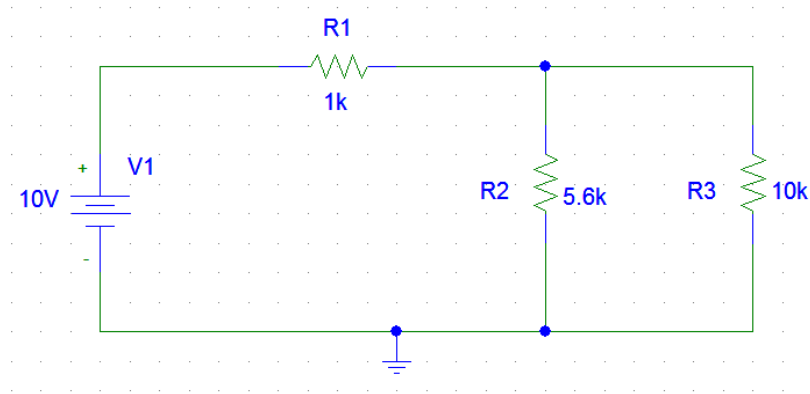

Fig.2
- Connect the resistors in parallel across the power supply as shown in figure2